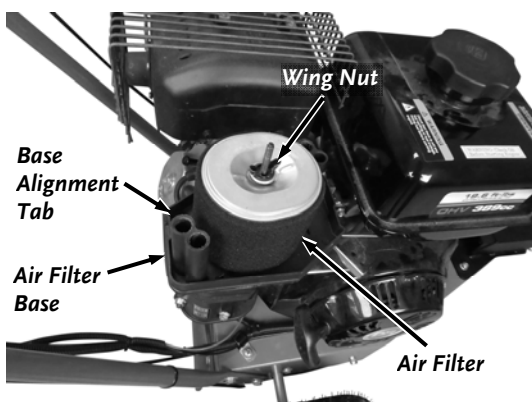

Figure 18
22. Remove the Wing Nut from the Air Filter and remove the Air Filter (**Figure 18**).